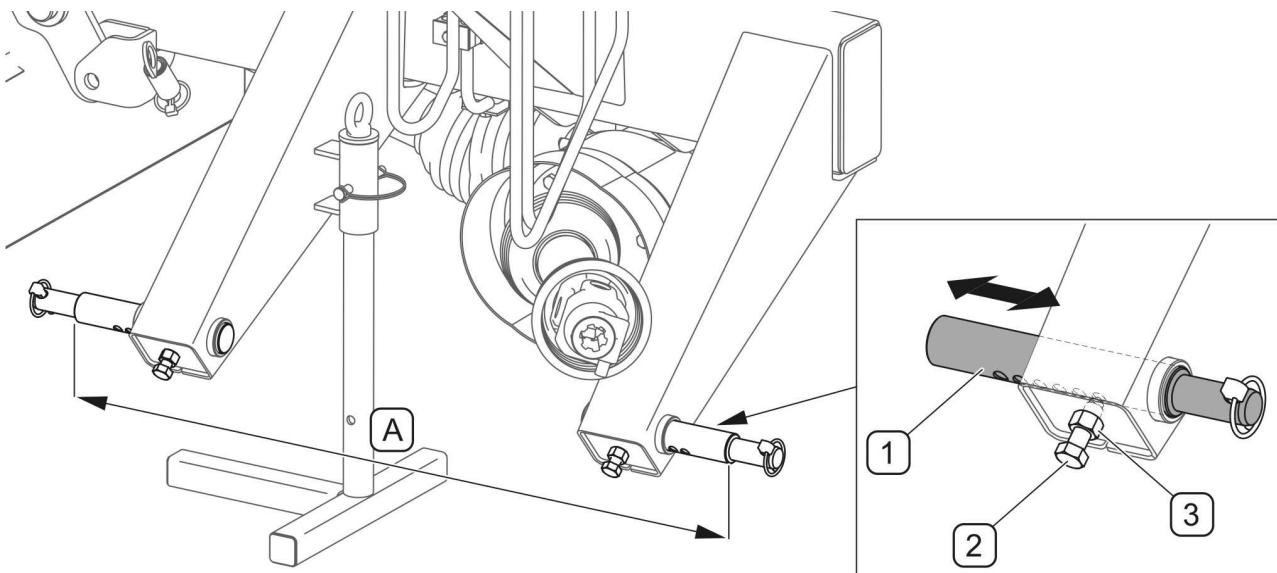

FIG. 4.2A Adjustment of mower lower linkage pins
Lower pins (1) of the mower linkage enable spacing adjustment (FIG. 4.2A) in range 795 ÷ 970 mm. To change spacing of linkage pin spacing:
- loosen counter nut (1),
- unscrew setting bolt (2),
- move pin (1) to the right or the left to obtain the required spacing,
- block pin position with setting bolt (2) and counter nut (3)